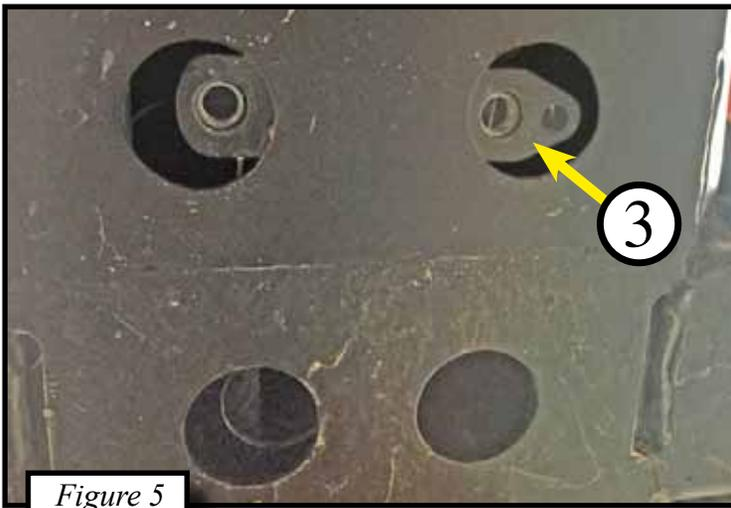

Figure 5
- Hold the rear of the frame bracket (1) to the frame and loosely attach using two bolts (4), lock washers, and washers into the bolt plate (3). Shown in Figures 5 & 6.